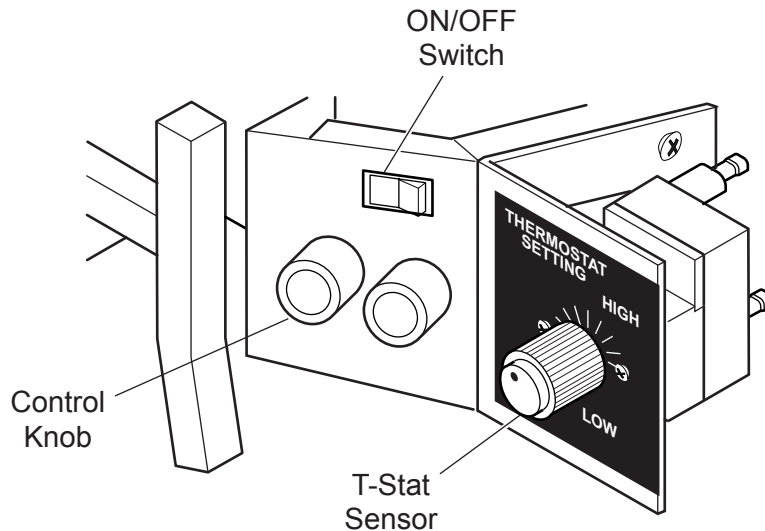

Figure 25 - Control Knob in "ON" Position and ON/OFF Switch in "OFF" Position
2. With control knob in the "ON" position make sure the ON/OFF switch is in the "OFF" position. *See Figure 25.*